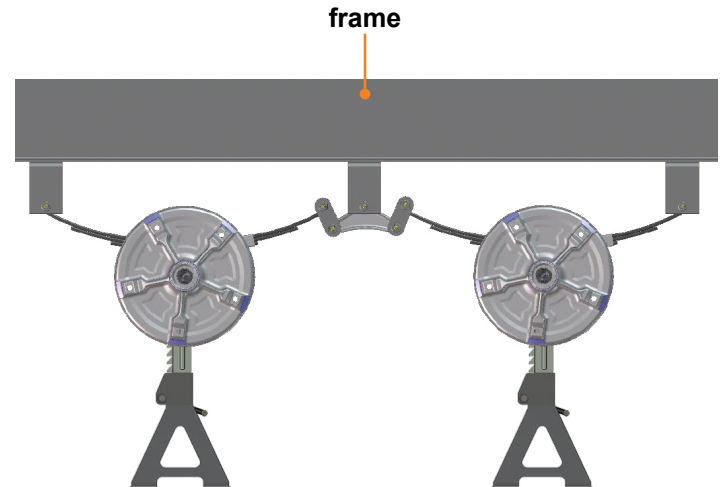

Fig.2
4. Using a floor jack, lift the axles slightly and place the additional properly-rated jack stands under the axles (**Fig.2**) so that the shackle bolts can be driven out with a hammer.